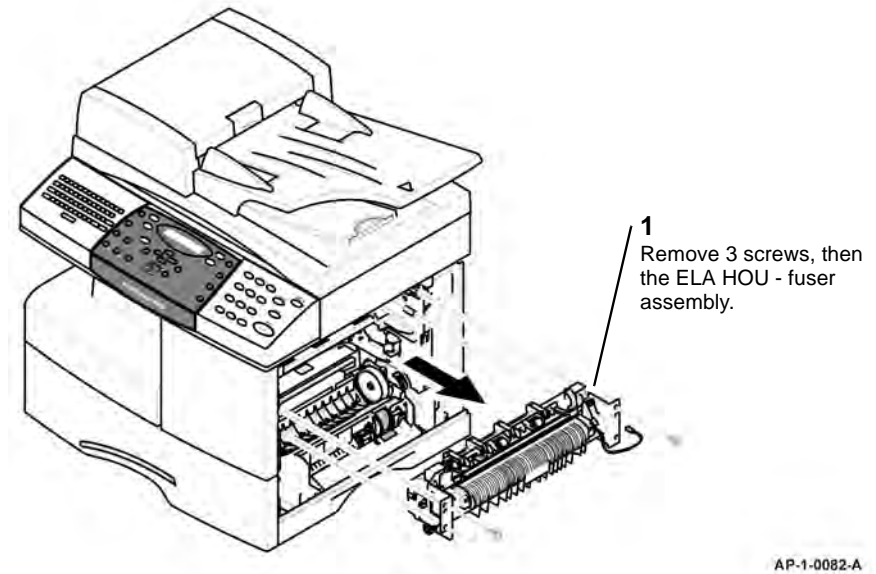

Figure 3 ELA HOU - fuser assembly removal
4. Remove the ELA HOU - fuser assembly, Figure 3.